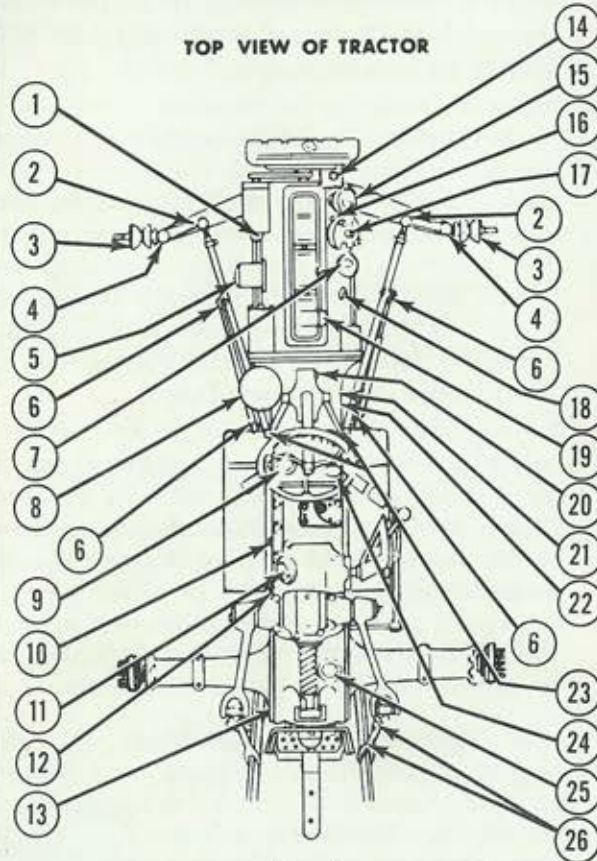

Figure 28
Pressure-Type Fittings: Clean the fittings on the Lift Link Leveling Box and Fork, Front Axle Spindles, Clutch Pedal, Steering Drag Links and the Clutch Release Bearing. Apply pressure gun grease and wipe the fittings clean. See Figure 28.
Rear Axle: Remove the rear axle inspection plug (13), Figure 28, and check the level of the oil. If necessary, add oil. Refer to "SERVICE EVERY 600 HOURS."
Remove the transmission oil level inspection plug (24), Figure 28, and add oil, if required. Refer to "SERVICE EVERY 600 HOURS."
Steering Housing: Check the lubricant level at the steering gearcase plug (20), Figure 28. Add grade "O" grease with a suction gun and fill to the level of the filler plug hole.
Power Steering Pump Reservoir: Check the oil level every 100 hours of operation. Remove the pump reservoir top, Figure 28. It is essential that the tractor wheels be straight ahead when checking the oil level and that the level be maintained to $\frac{5}{8}$ " from the top edge of the can. Clean the filter screen if sediment is noted in the fluid.
Differential: Replace the oil in the differential after the first 50 hours of operation and every 600 hours thereafter. In winter, operate the tractor to thin the oil before draining. On Series 2000 tractors, refill the differential with 8 quarts of oil. On Series 4000 tractors refill the differential with 11½ quarts of oil. See (25), Figure 28. Use mild extreme pressure lubricant SAE 80, both summer and winter.